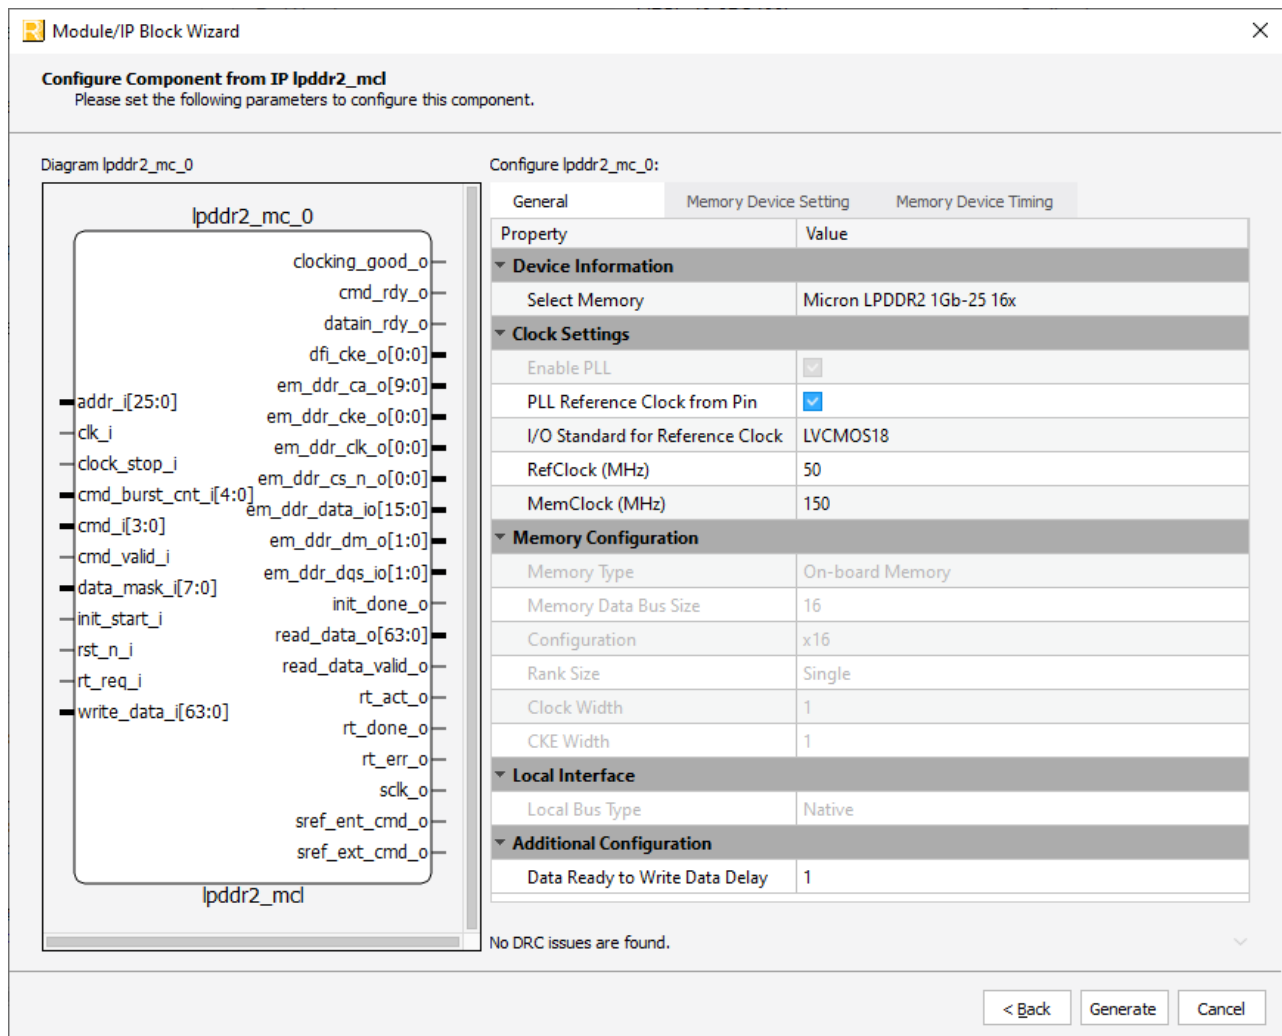

Figure 3.2. Module/IP Block Wizard of LPDDR2 SDRAM Controller Lite IP Core
3. In the module's dialog box of the **Module/IP Block Wizard** window, customize the selected LPDDR2 SDRAM Controller Lite IP Core using drop-down menus and check boxes. As a sample configuration, see Figure 3.2. For configuration options, see the Attributes Summary section.